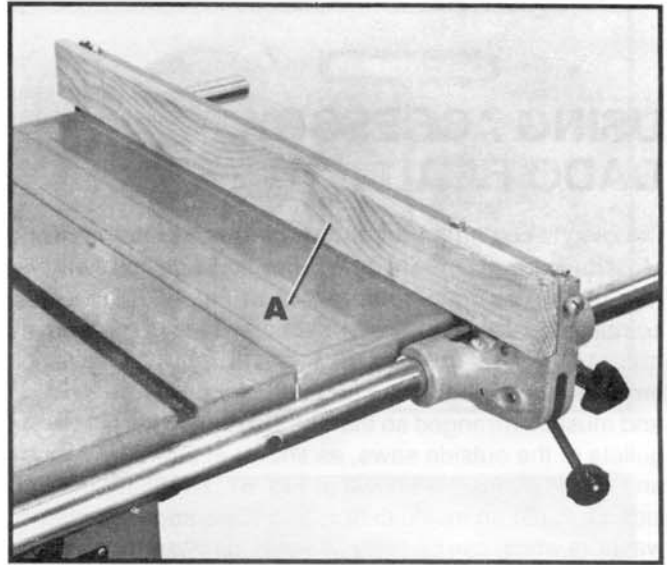

Fig. 70
It is necessary when performing special operations such as when using the moulding cutterhead to add wood facing (A) Fig. 70, to one or both sides of the rip fence, as shown. The wood facing is attached to the fence with wood screws through the holes provided in the fence. 3/4 inch stock is suitable for most work although an occasional job may require 1 inch facing.